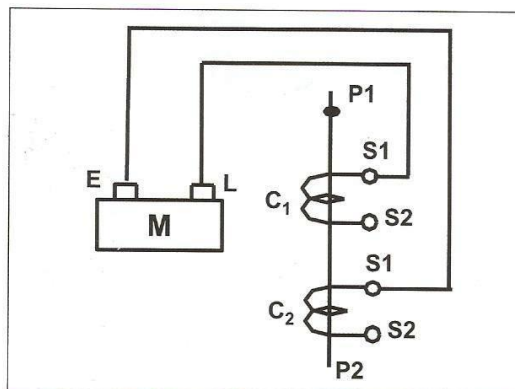

Fig 5 Core to Core
- 4 Core to Core: Refer Fig 5. The minimum acceptable value is  $1 \text{ M}\Omega$ .